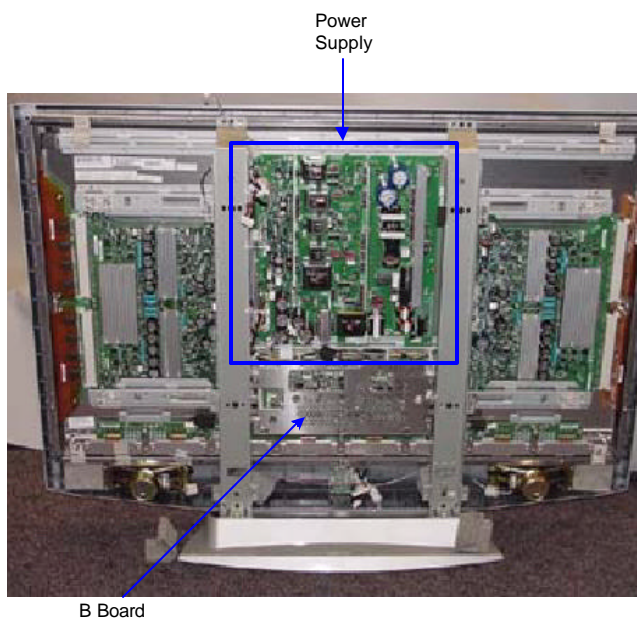

FIGURE 9-4 - REAR SHIELD REMOVED
d) Remove the rear shield with the top decorative panel to expose the circuitry (Figure 9-4).